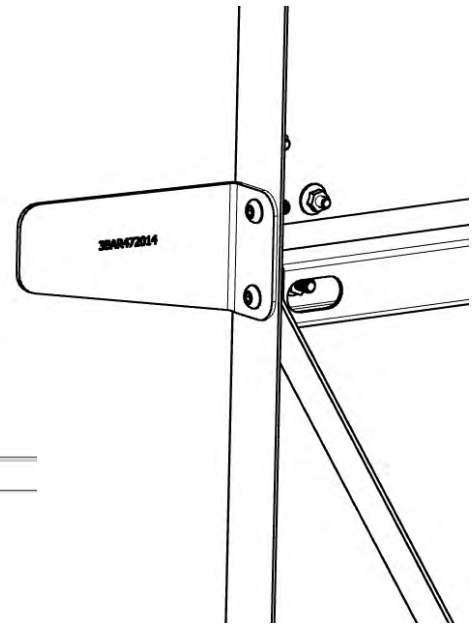
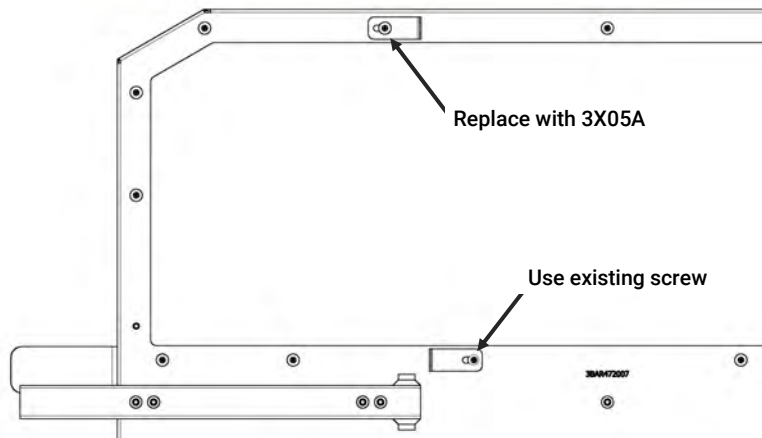

Figure 4
Figure 5
5. Locate the Driver Wing Support Bracket [3BAR472014], (1) Barrier Diagonal Support [3BAR472008], (2) [3X611] button head screws, and (1) [3X619] whiz nut. Loosely install these components as shown in Figure 4.
6. Repeat step 5. for the passenger side using the Passenger Wing Support Bracket [3BAR472013], the remaining (1) Barrier Diagonal Support [3BAR472008], (2) [3X611] button head screws, and (1) [3X166] whiz nut.
7. Referring to Figure 5, loosely install the Upper Divider Bracket at the bottom of the window using the fastener that was already present in the window. Loosely install the Upper Divider Bracket at the top of the window using the provided longer fastener [3X05A] from kit [4DIK472000].